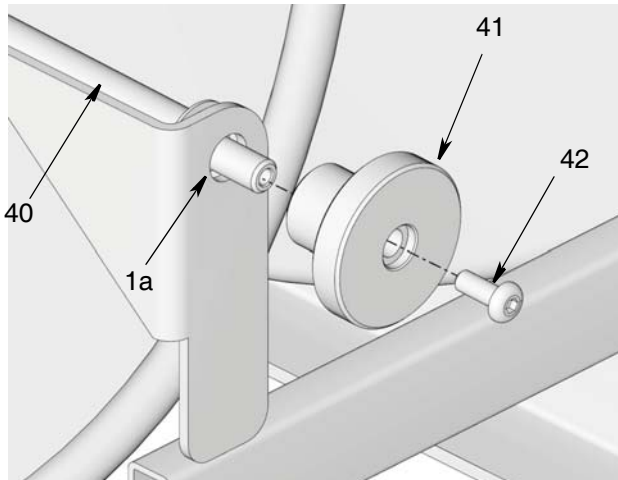
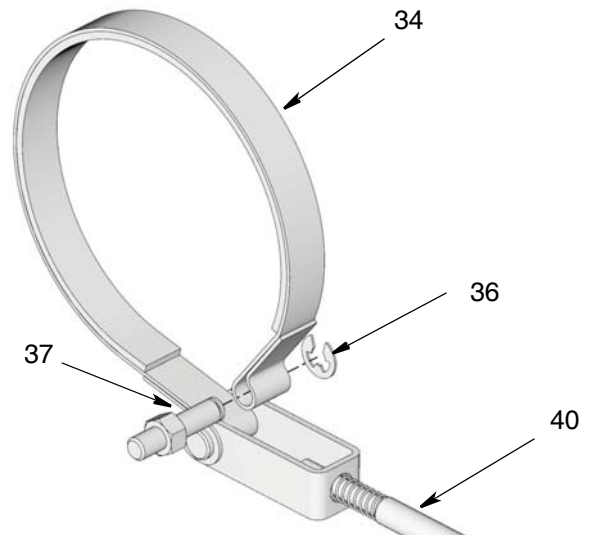

FIG. 27
FIG. 29
2. Turn knob (41) counter-clockwise to remove brake tension.
3. Loosen and remove screw (42) from end of knob (41) (FIG. 27).
4. Remove knob (41) from end of rod (40) (FIG. 27).
5. Loosen and remove nut (24) and pull band clip (34a) off anchor pin (37).
6. Remove clip (36) from anchor pin (37) (FIG. 29).
7. Remove (37) from band (34) (FIG. 29).
8. Remove band (34) from brake hub (12).
9. Pull end of rod (40) out of frame (1a) (FIG. 27).
14. Feed end of rod (40) through hole (27b) (FIG. 27).
15. Reinstall knob (41) over end of rod (40). Install screw (42). Tighten screw securely to hold knob in
place (FIG. 27).